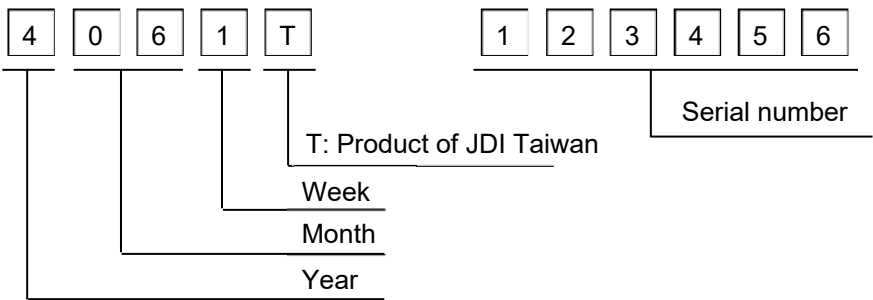

Fig. 12.1
1) The lot mark is showing in Fig.12.1. First 4 digits are used to represent production lot, T represented product of JDI Taiwan, and the last 6 digits are the serial number.